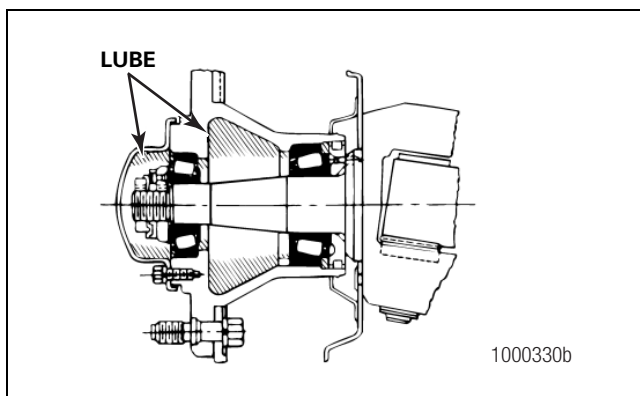

Figure 9.12
4. Force the specified lubricant from the large end of the cones into the cavities between the rollers and cage. Pack the hub between the bearing cups with lubricant to the level of the smallest diameter of the cups. Figure 9.12.